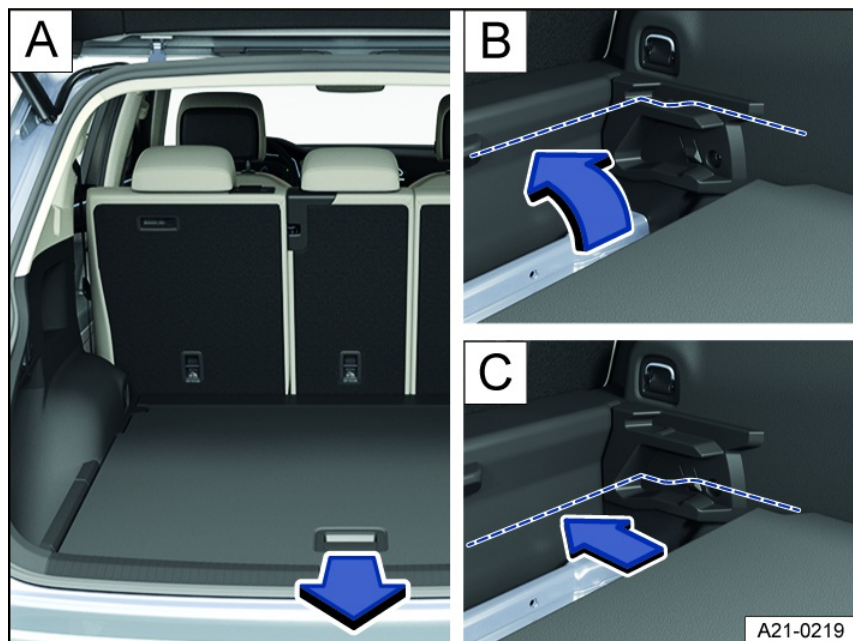

Fig. 172 In the luggage compartment: Adjusting the height of the luggage compartment floor.
2. Lift the luggage compartment floor and pull it backward in the direction of the arrow and out of the guides on the sides of the luggage compartment [fig. 172 \[A\]](#)
3. Insert the luggage compartment floor into the guides at the desired height and push it forwards as far as it will go [fig. 172 \[B\], \[C\]](#).
1. Slide your fingers into the recessed grip [fig. 172 \[A\]](#) and pull the luggage compartment floor out in the direction of the arrow at the sides of the luggage compartment.